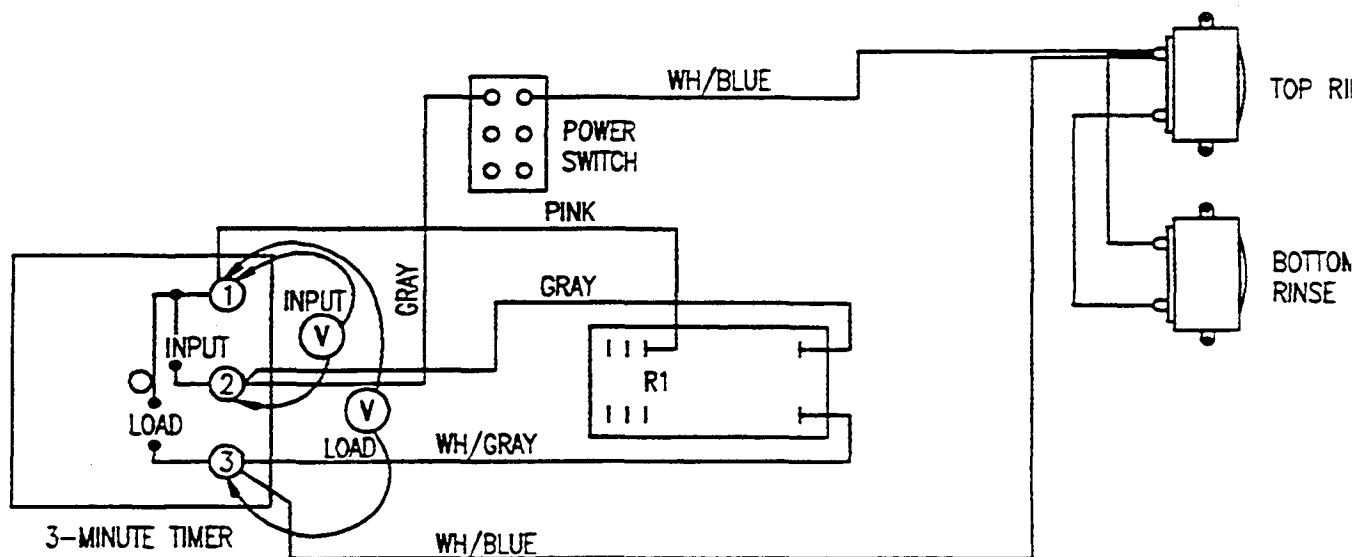

Figure 6-7. 3-Minute Timer - 24-CEA-10
3. Refer to Figures 6-7 and 6-8, and connect the voltmeter across timer terminals 1-3 (LOAD).
Set the ON/OFF switch to the OFF position. Refer to Figure 6-7, and check for 115/120 VAC across the top terminals of the ON/OFF switch (white/gray and gray wires on model 24-CGA-10) or (white/blue and gray wires on model 24-CEA-10).